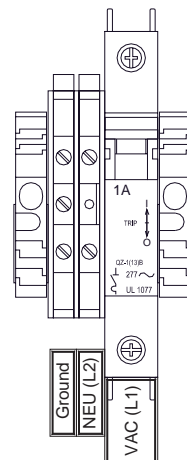

Figure 7 Typical Input Power connections
5. Connect 110-220VAC input to the Fuse Block labeled “VAC (L1)” in the lower left of the enclosure. Connect Neutral (or L2) to terminal labeled “NEU (L2)” and Ground to the Green/Yellow terminal labeled “GROUND” (Figure 7). The power supply is able to accept AC input voltages from 100 to 240 volts at 50 or 60Hz.